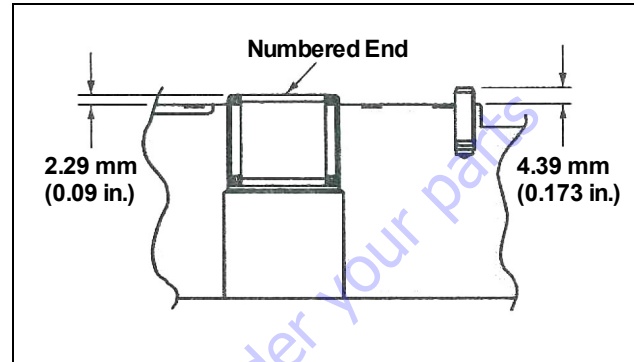

Figure 5-136. Endcover Inspection
- Check the bearing (press fit) in endcover. If needles remain in cage, move freely, and setting is at the dimension shown in Figure 5-136., removal not required.
- Check roll pin in endcover. If tight and set to the dimension shown in Figure 5-136., removal not required.